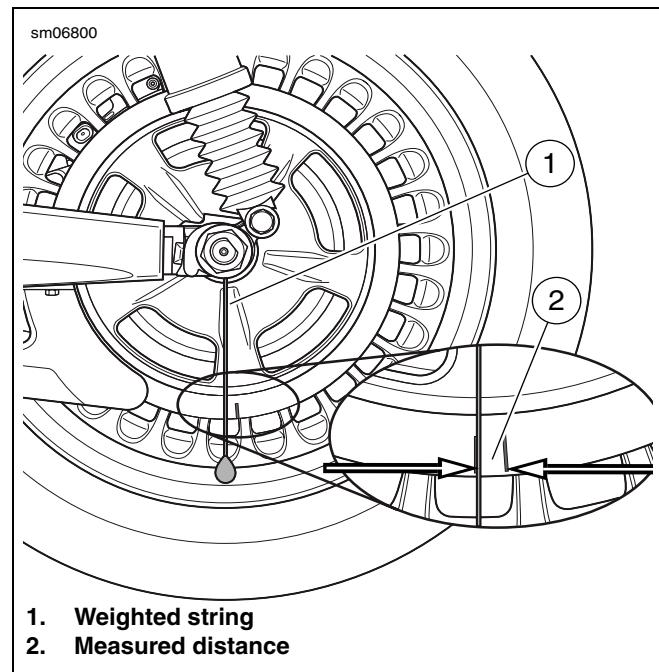

Figure 1. Check Compensator Wear
3. See Figure 1. Hang a weighted string (1) on the left axle spacer as close as possible to, but not touching, the rear sprocket.